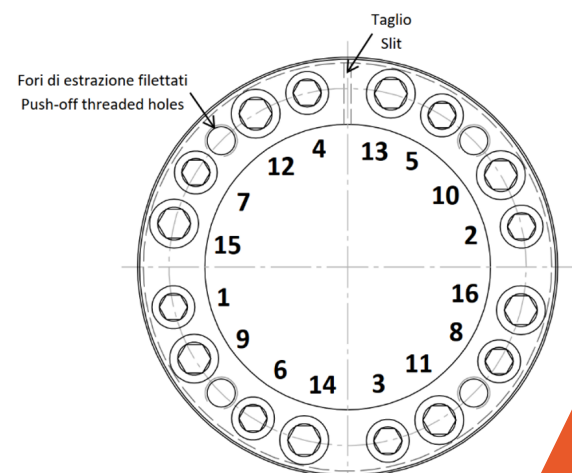

Fig. 2
4. Tighten the screws by hand in a crosswise pattern, starting with a screw located at 90° approx. respect to slit (fig. 2), until fitting clearances with shaft and hub bore are bridged and connected components are slightly locked, while making sure that hub is aligned as required using a dial indicator. **Better centering of hub from the beginning of installation is essential for better centering when installation is completed.**
5. Use a torque wrench set approx. 5% higher than specified tightening torque (Ma), or reduced within admissible value. **Progressively tighten the screws item [5] (smaller size) in a crosswise pattern (fig. 2), using approx. ¼ turns for several passes until ¼ turns can no longer be achieved. Start with a screw located at 90° approx. respect to slit; screws adjacent to slit shall be tightened in a row.**